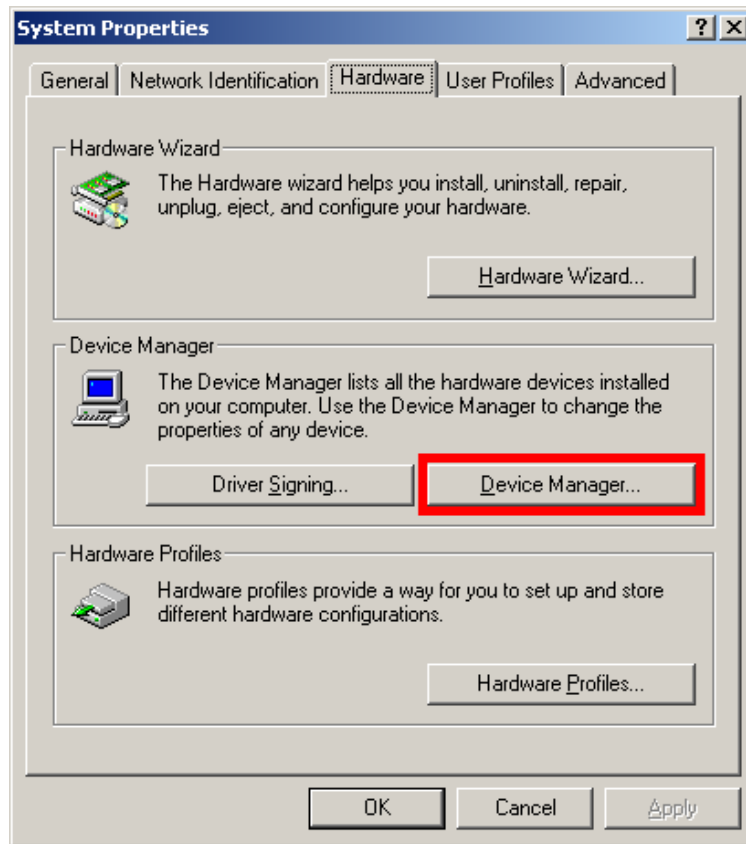

Figure 7-35: Device Manager Tab
Step 3: Click the **Device Manager** tab (Figure 7-35).